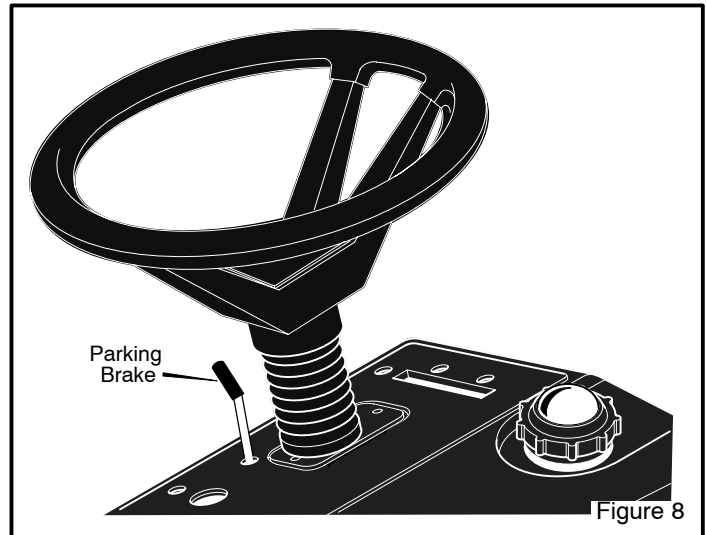

Figure 8
2. Lift the **parking brake lever** (Figure 8).
**WARNING:** Before you leave the operator's position, move the shift lever to the neutral (N) position. Set the parking brake. Move the blade rotation control to the DISENGAGE position. Stop the engine and remove the ignition key.